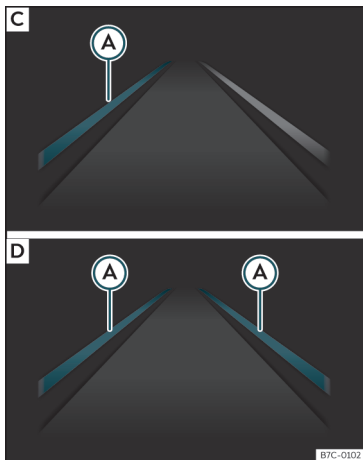

Fig. 219 On the instrument panel display: Indication on the Lane Assist system display (example 2).
- **Fig. 219 [C]:** The system is operational, the highlighted line (A) indicates that there was a risk of involuntarily crossing the lane line and that the steering is being adjusted to correct the angle.
- **Fig. 219 [D]:** The two highlighted lines (A) light up simultaneously when both lane lines are recognised and the Lane Assist function is activated.